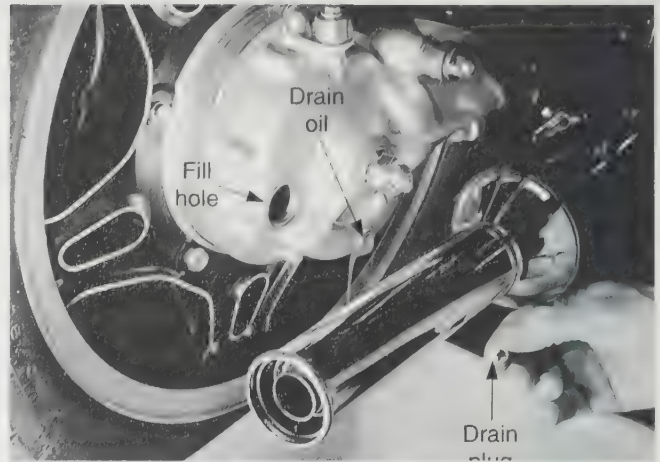

Figure 21-41. Changing a bike's rear drive lubricant is a simple task. Use the small lower hole for draining and the larger upper hole for refilling.
- Changing the lubricant in the rear housing, **Figure 21-41**.